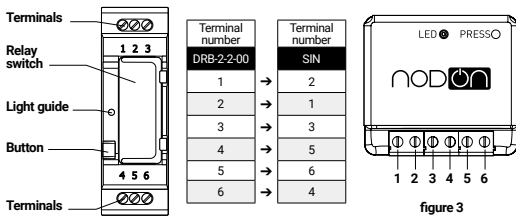

figure 3
- 7 Connect the terminals according to your module according to the diagram (see figure 3).